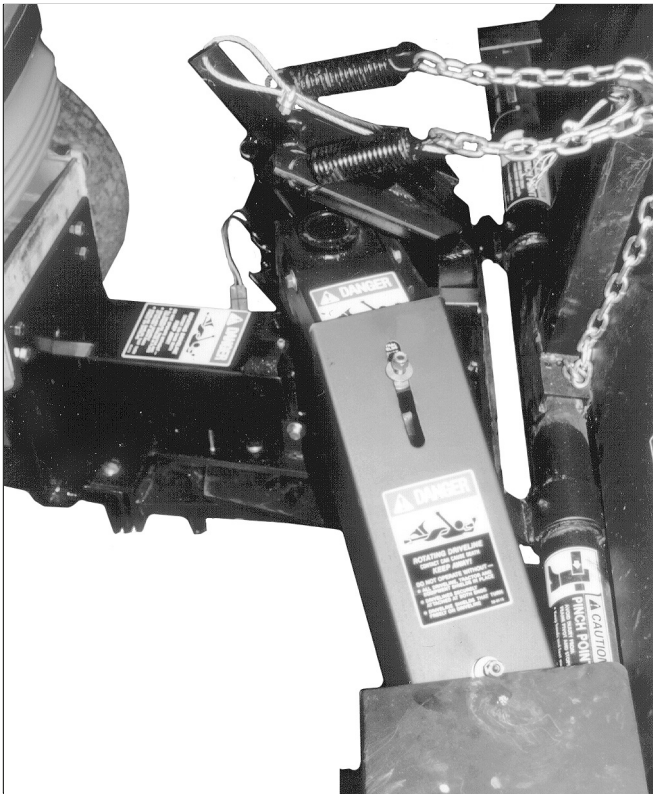

figure 2
6. Units with input drive shield - Place the input drive shield (figure 2) over the input driveline. Attach angle brackets to the input driveline shield. To make installation easier, put the washer, lock washer and nut toward the outside of the shield.
2. Fasten the brush head assembly to the drive assembly using 2, 1/2-13 x 1 1/2 inch carriage bolts, flat washers, lock washers and nuts. Be sure to position the hardware as high as possible in the slots (figure 2).
4. Units with rectangular drive shaft - Install the output driveline shield (figure 2).